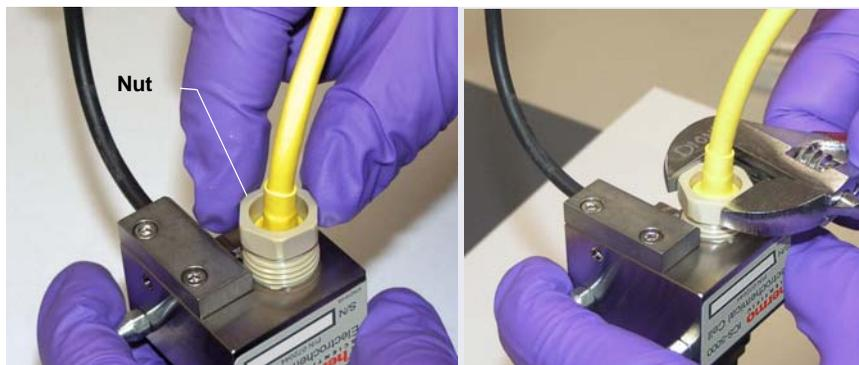

Figure B-18. Installing the PdH Reference Electrode Nut
6. Screw the nut on the PdH reference electrode into the reference electrode well and tighten it fingertight (see Figure B-18). After fingertightening, use a wrench to tighten the nut an additional 20 to 30 degrees.